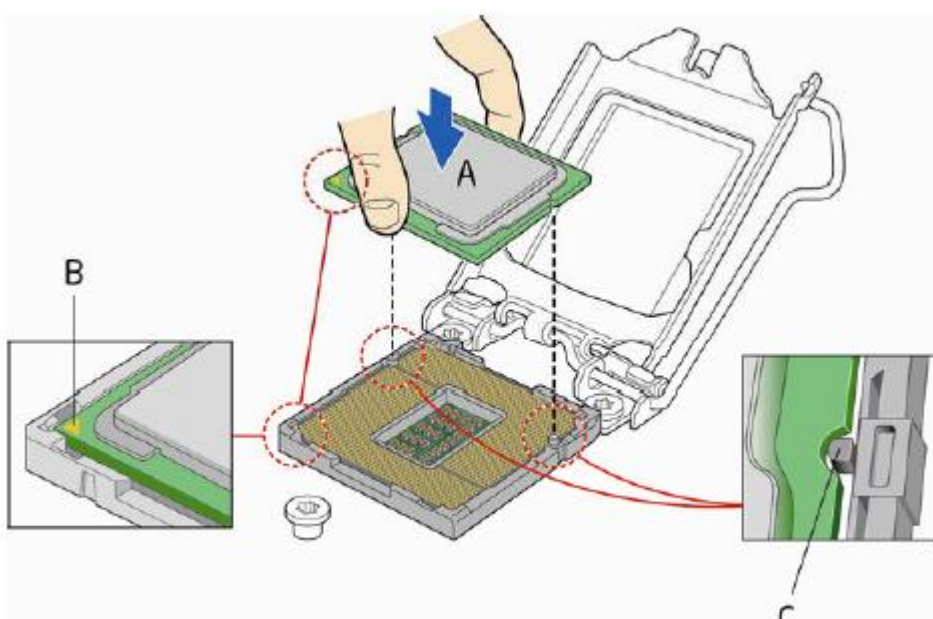

Figure 22: Install the processor
4. Hold the processor with your thumb and index finger oriented as shown in Figure 22 to align your fingers with the socket finger cut-outs. Make sure that the processor Pin 1 indicator (gold triangle) is aligned with the Pin 1 chamfer on the socket (Figure 22, B) and that the notches on the processor align with the posts on the socket (Figure 22, C). Lower the processor straight down without tilting or sliding it in the socket (Figure 22, A).